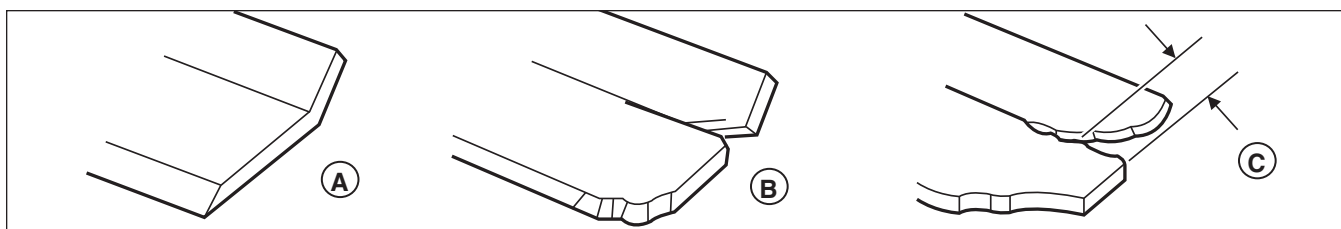

Figure 16. inspecting the Mower Blade Air Lifts
- B.) The air lifts are excessively eroded (B & C, Figure 16) and the notch (C) is .25" (6,35 mm) deep or greater.